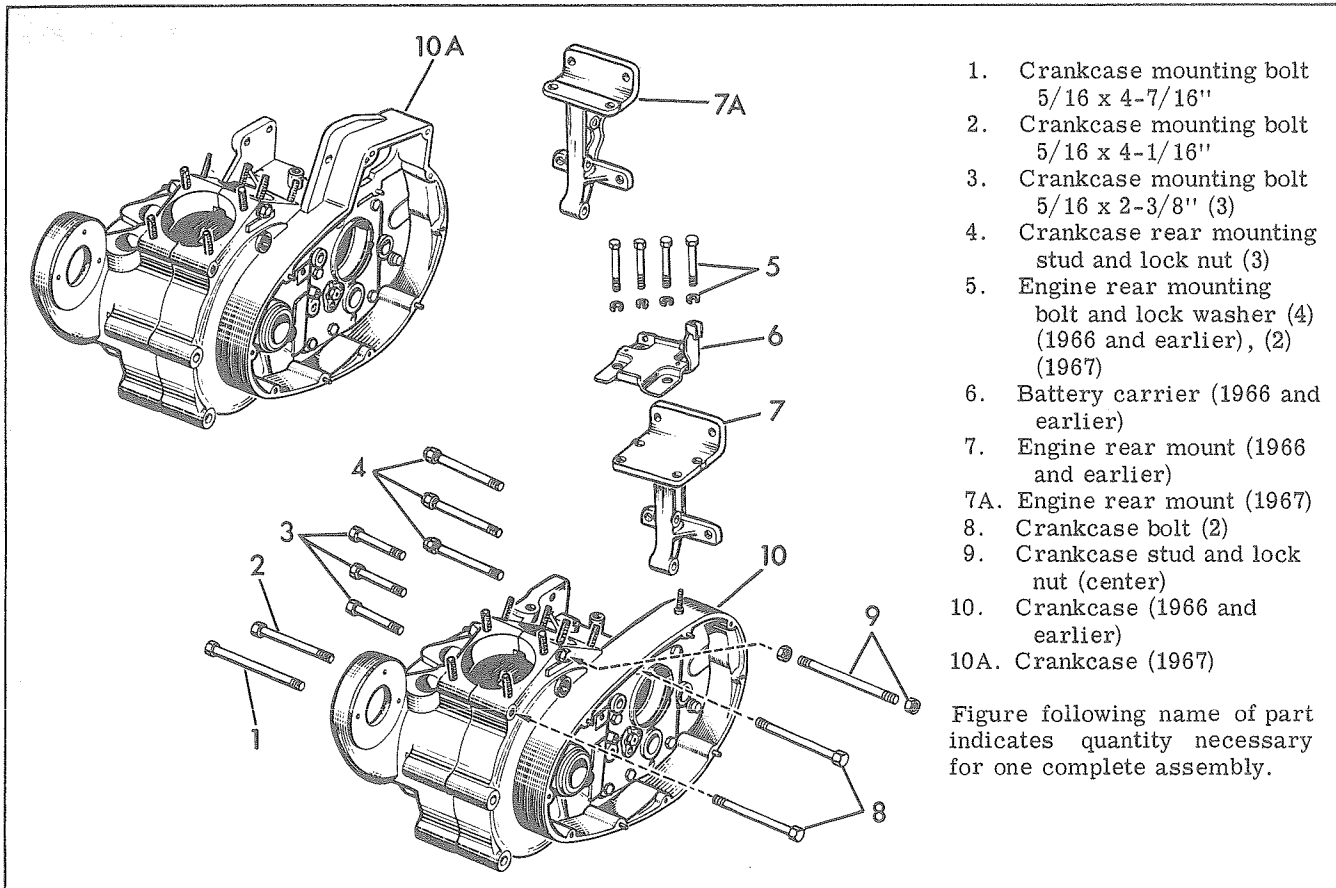

Figure 3E-19. Crankcase - Exploded View
12. See Fig. 3E-20. Mount flywheel and left case assembly on press table supporting crankcase on parallel bars. Press on end of sprocket shaft with arbor press until flywheel assembly (6) is free from case. Do not drift or tap flywheel assembly from left case as flywheels may be knocked out of alignment.
13. See Fig. 3E-20. If it is necessary to disassemble flywheels or remove Timken bearing from crankcase, free right bearing half (7) from sprocket shaft, using Sprocket Shaft Bearing Puller, Part No. 96015-52, as shown in Fig. 3E-21. Secure pinion shaft between copper jaws in vise. Place hooked ends of puller
See Fig. 3E-22 and proceed as follows: Grip pinion shaft in copper vise jaws so shafts are in vertical position. Remove lock plate screw (1), lock plate (2), and crank pin nut (3). Strike left flywheel with soft metal mallet at about 90 degrees from crank pin hole on wheel periphery to loosen. Lift left flywheel (4) off crank pin.